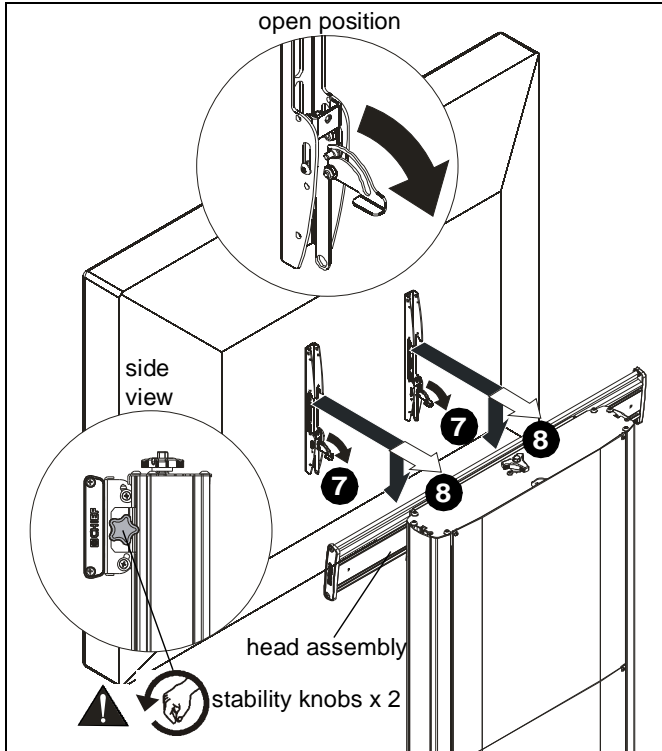

Figure 8
7. Position latches on interface uprights so that they are in the "open" position. (See Figure 8)
8. Hang interface uprights (B) on head assembly. (See Figure 8)